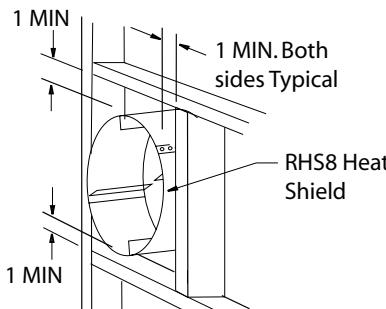

**Figure 9c. L52DF-ST Top Vent Venting Graph**
**NOTES:** All dimension lengths for vertical or horizontal runs are measured from centre of the vent pipe. Venting runs *must* fall within the limits set by the venting graph (see **Figure 9c**).